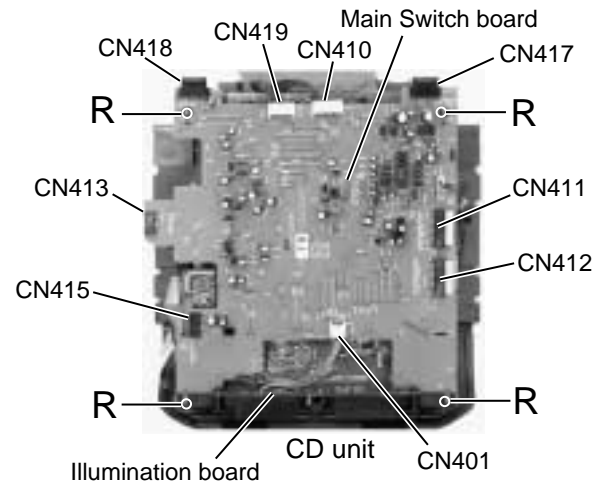

Fig.22
■ Removing the main switch board and illumination board. (See Fig.22)